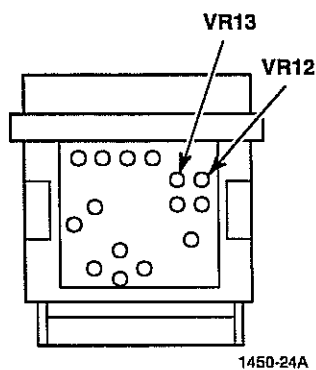

Figure 3-20.
- b. Adjust VR12 (Figure 3-20) for 1.50 VDC $\pm$ 0.05 VDC.
- b. Adjust VR13 (Figure 3-20) for 1.50 VDC $\pm$ 0.05 VDC.